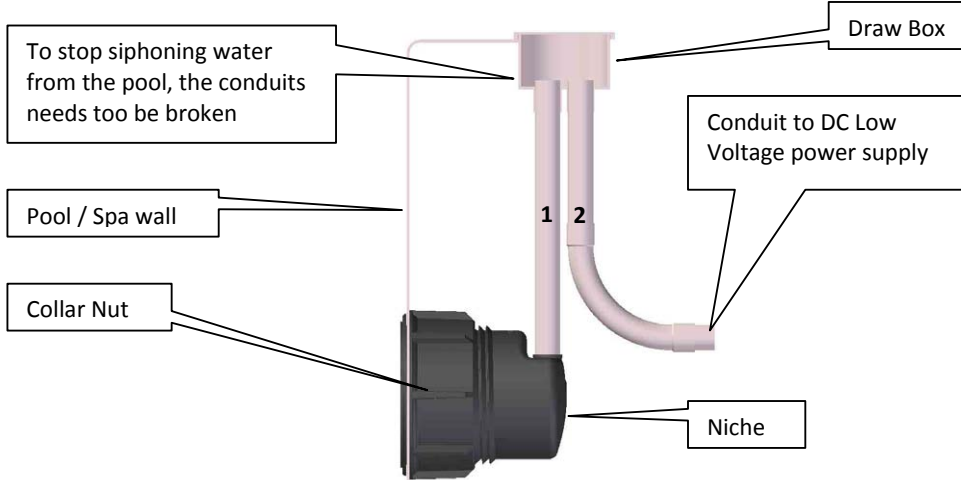
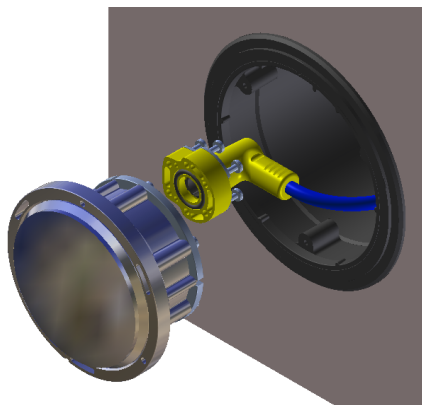

Fig. 17
Fig. 18
13. Prepare a length of 25mm electrical conduit “Tube No: 1” (Fig. 17) to be glued into the top of the niche gland adaptor using PVC solvent cement. The conduit should be extended to above the water level of the pool.
14. Return below ground another tube “Tube No: 2” (Fig. 17) to the light DC Low Voltage power supply. Ensure you have inserted draw wire into “Tube No: 2” to feed the cable from the Niche interior. Ensure you left up to 1m of cable between Niche and Light (Fig. 18) before tightening the cable gland. Surplus of the cable will allow for future service above the pool water level.
15. Remove the plug from dust bag and undo six disposable nuts holding S/Steel bracket, M4 six screws and plug together. Ensure plug O-ring is lubricated and sits firmly in the plug. Ensure plug correct orientation against light black connector then. Push the plug into the light black connector and tight up all six screws firmly with torque 2 - 2.5Nm (Fig. 18). Use across pattern when tightening screws.